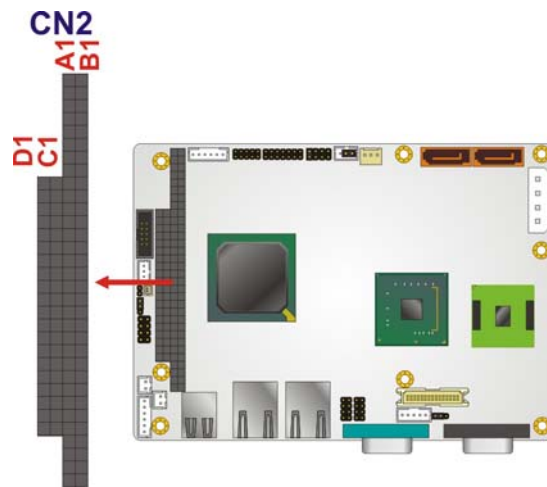

Figure 3-14: PC/104 Connector
- CN Location:** See **Figure 3-14**